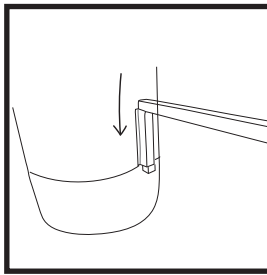
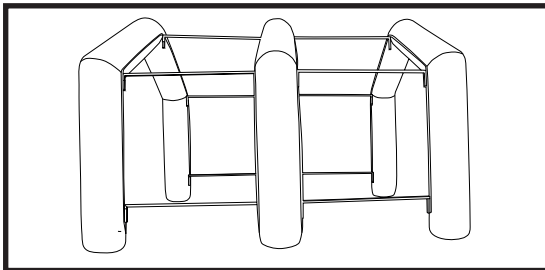
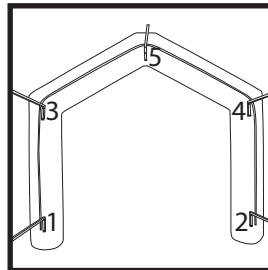

Fig. 3
Fig. 4
Fig. 5
7. Put the bar to the hole on the module (Fig. 3) - connect modules with bars (Fig. 4). Connect modules in order shown in Fig 5.
4. Take out the bars in reverse order then that shown in Fig. 5.